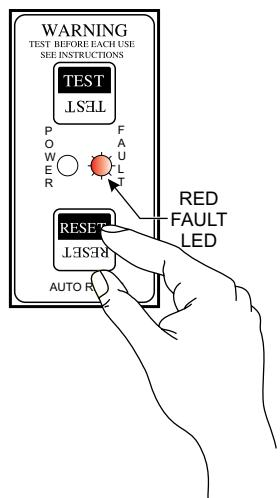

Figure 23. Red Fault Status LED (Flashing)
7. If the main breaker is not turned on within 5 seconds the **RED** fault led on the GFCI sensing module will begin flashing (Figure 23). If this occurs, press the **reset button** on the GFCI sensing module.